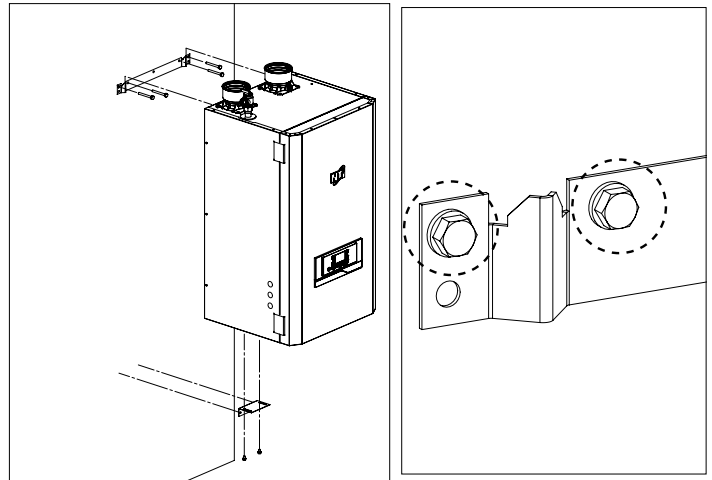

Figure 3 - Mounting to a Concrete Wall
1. Position the upper wall mounting bracket on the concrete wall. Ensure the bracket is level. Then use the bracket as a template to mark four (4) drilling holes on the wall - two (2) on each side of the bracket. See Figure 3 for details.